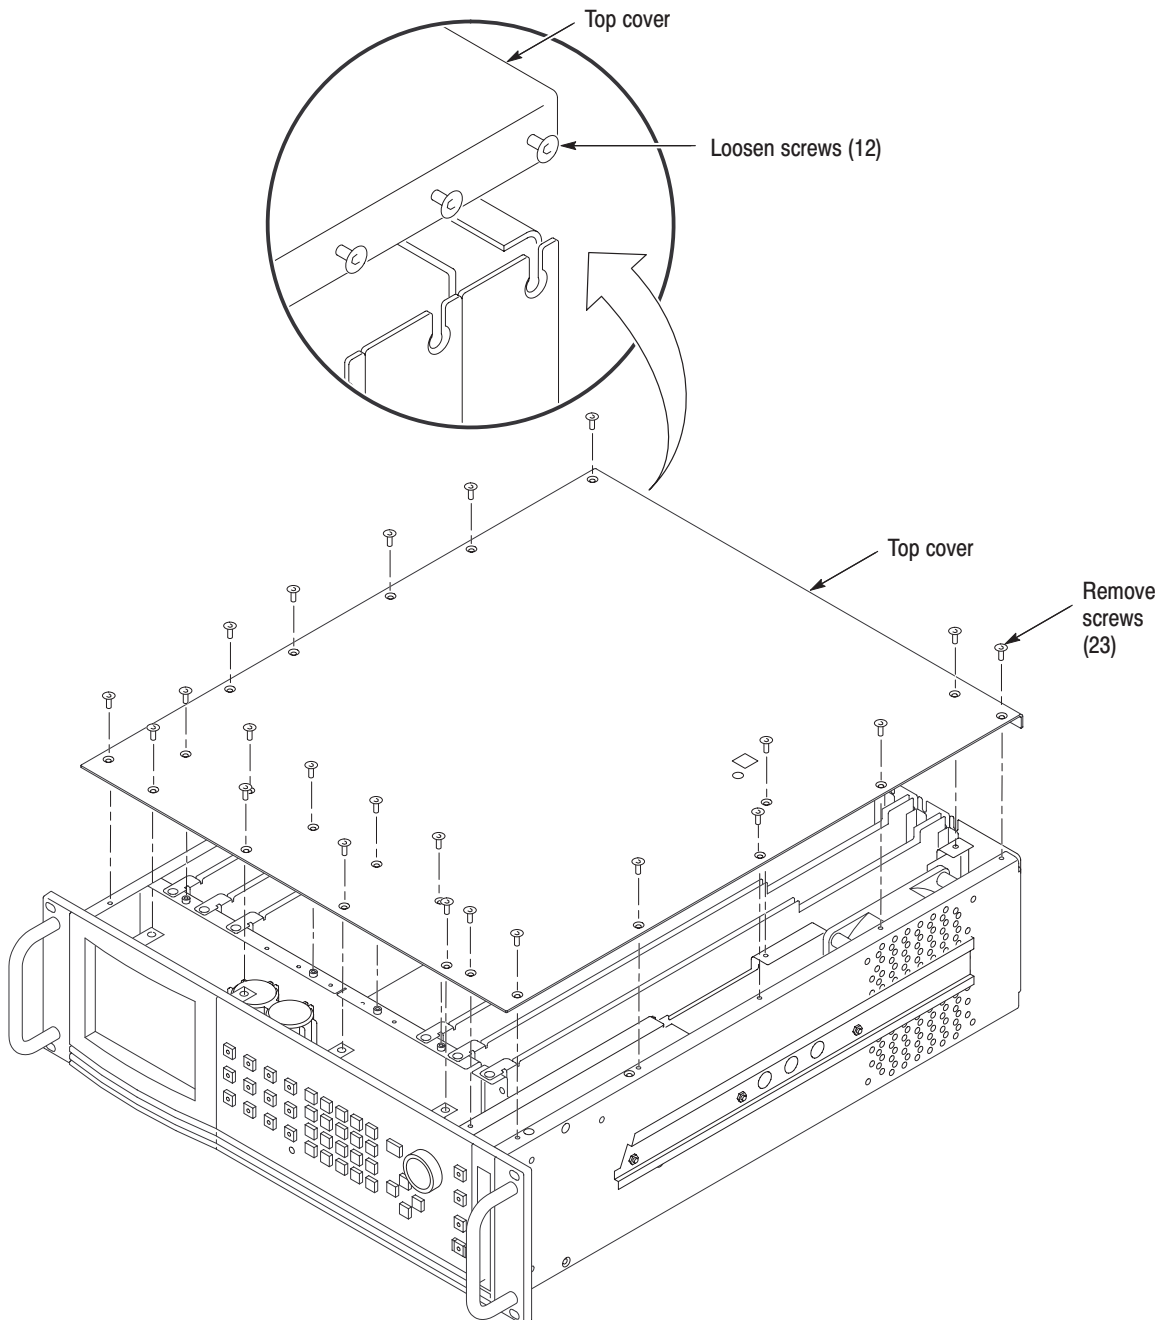

Figure C-2: Top cover removal
3. Refer to Figure C-2 and remove or loosen all screws to remove the top cover.
3. Remove all top-cover screws and remove the top cover. See Figure C-2 on page C-3.